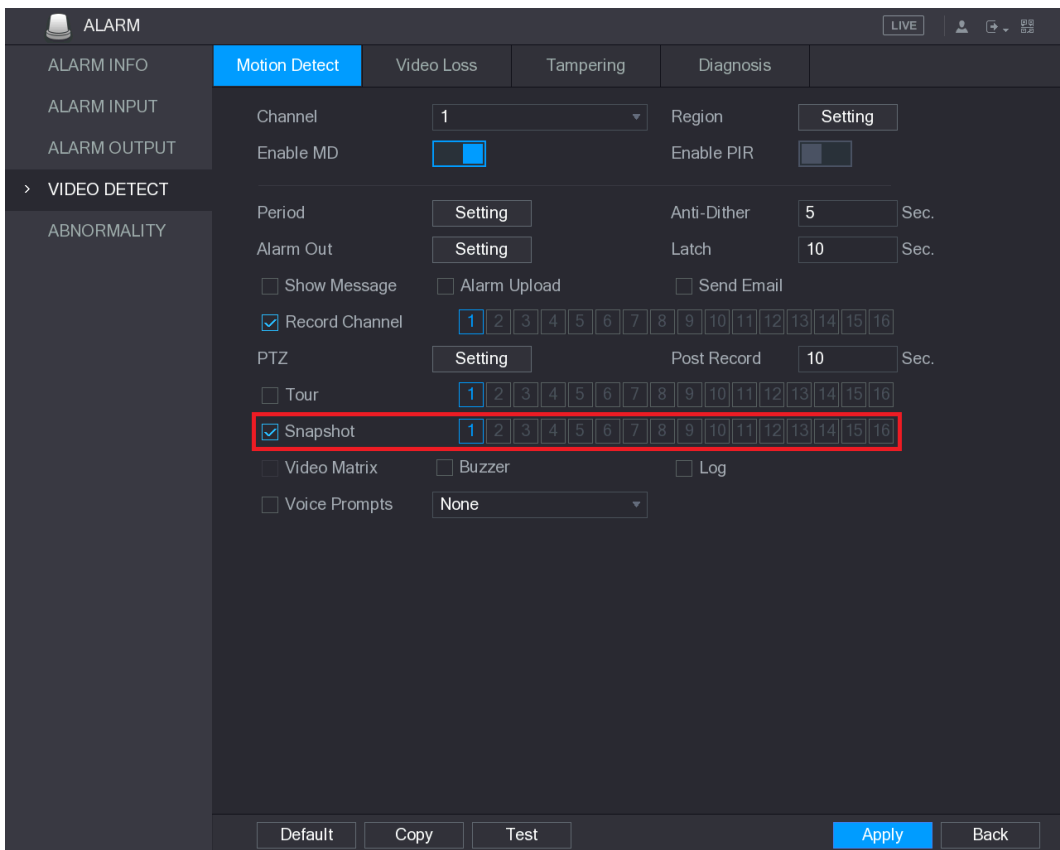

Figure 5-99
**Step 3** Select **Main Menu > ALARM > VIDEO DETECT**, and select the event type to configure, for example, select the **Motion Detect** tab. See Figure 5-99.